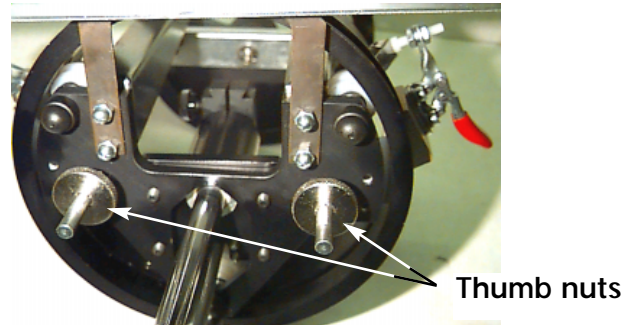

Figure 3-15
1. Loosen the two thumb nuts on the back of the wide-angle cap frame driver (see Figure 3-15).